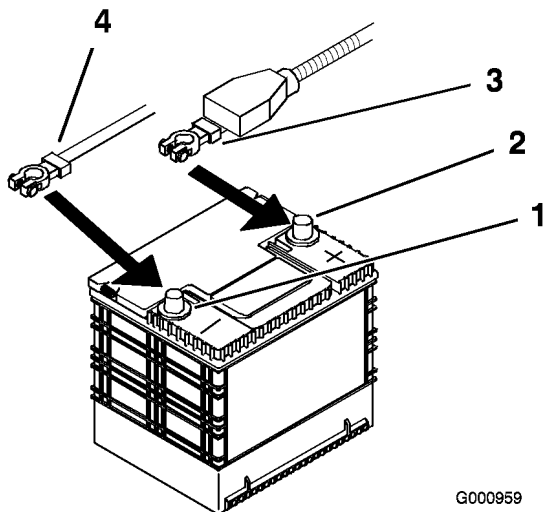

Figure 44
4. First disconnect the negative battery cable from the negative (-) battery terminal (Figure 44).
5. Slide the red terminal boot off the positive (red) battery terminal. Then remove the positive (red) battery cable (Figure 44).
4. Secure the cables with 2 bolts (1/4 x 3/4 inch), 2 washers (1/4 inch), and 2 locknuts (1/4 inch) (Figure 44).